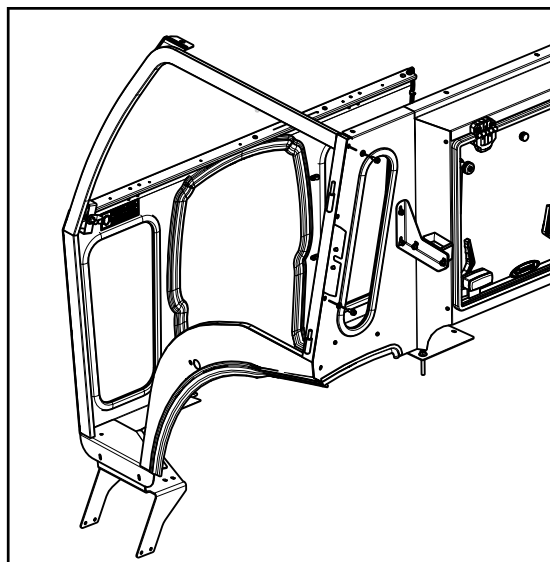

Fig. 6.2 (Left Side frame Installation)
6.2 Set the side frame in place and start two bolts with plastic washers in the rear panel. See Fig. 6.2. Leave fasteners finger tight. (Set floorboard on top of cowl flange.)